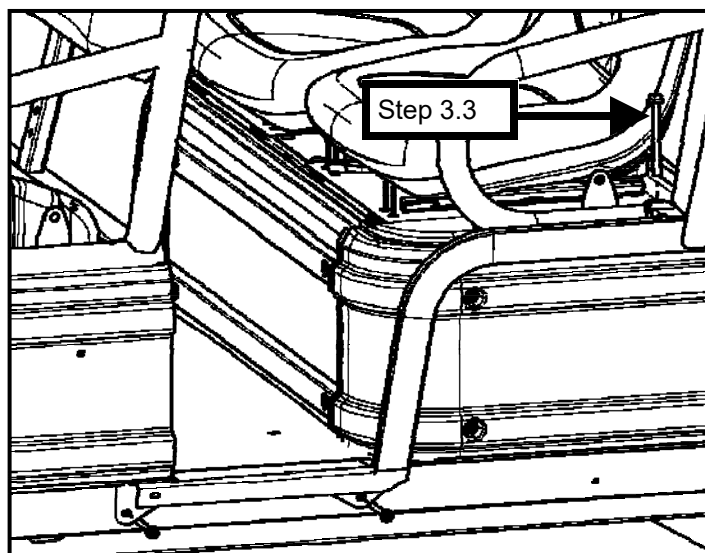

Figure 3.2: Rear floorboard panel
- (2) 5/16-18 Flanged nut
Install two (2) 5/16" x 2-3/4" bolts through the holes under the floorboard, through the Carryall frame and install a nut on the bolts, on the inside of the frame. Leave bolts loose. (**Figure 3.2**).
- (1) M10 x 1.50 Flanged nut
Install one (1) M10 x 110mm bolt through the bracket at the rear of the floorboard panel and through the seat side bolster. Install the large washer from step 1.4, and a new M10 flanged nut on the bolts, under the Carryall frame. Leave bolts loose. (**Figure 3.2**).